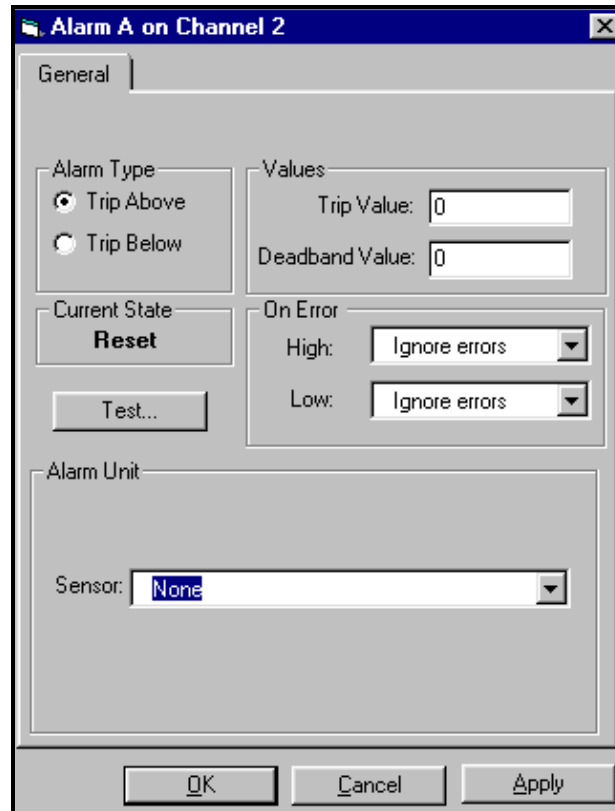

Figure 4-3: Alarm Programming Window
2. From the channel menu, click on the Alarms option, and then on “Alarm A” or “Alarm B.” The Alarm window appears, as shown in Figure 4-3 below.